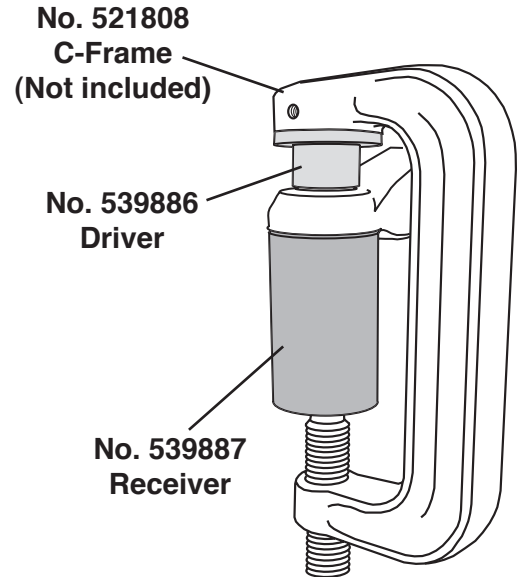

Figure 1
2. Position No. 521808 C-frame (not included), No. 539886 Driver, and No. 539887 Receiver on the lower ball joint as shown in Figure 1.